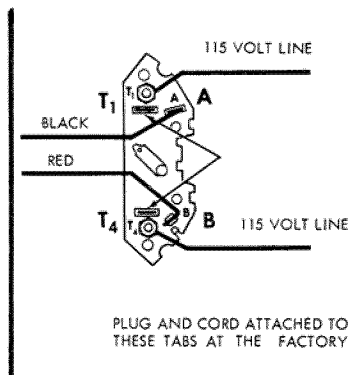

Figure 4
2. A 48-inch, 3-conductor (center ground wire) cord and plug assembly is attached at the factory, with the two power leads connected to the quick connect tabs adjacent to terminal posts "T₁" and "T₄". (See figure 4.) In event this cord is removed and the motor wired for a permanent installation, connect one power lead to terminal "T₁" (or quick connect tab adjacent to it). Connect the other power lead to terminal "T₄" (or quick connect tab adjacent to it).
5. The Black and Red motor leads are connected to the quick connect tabs on terminal board. (See figure 4.)